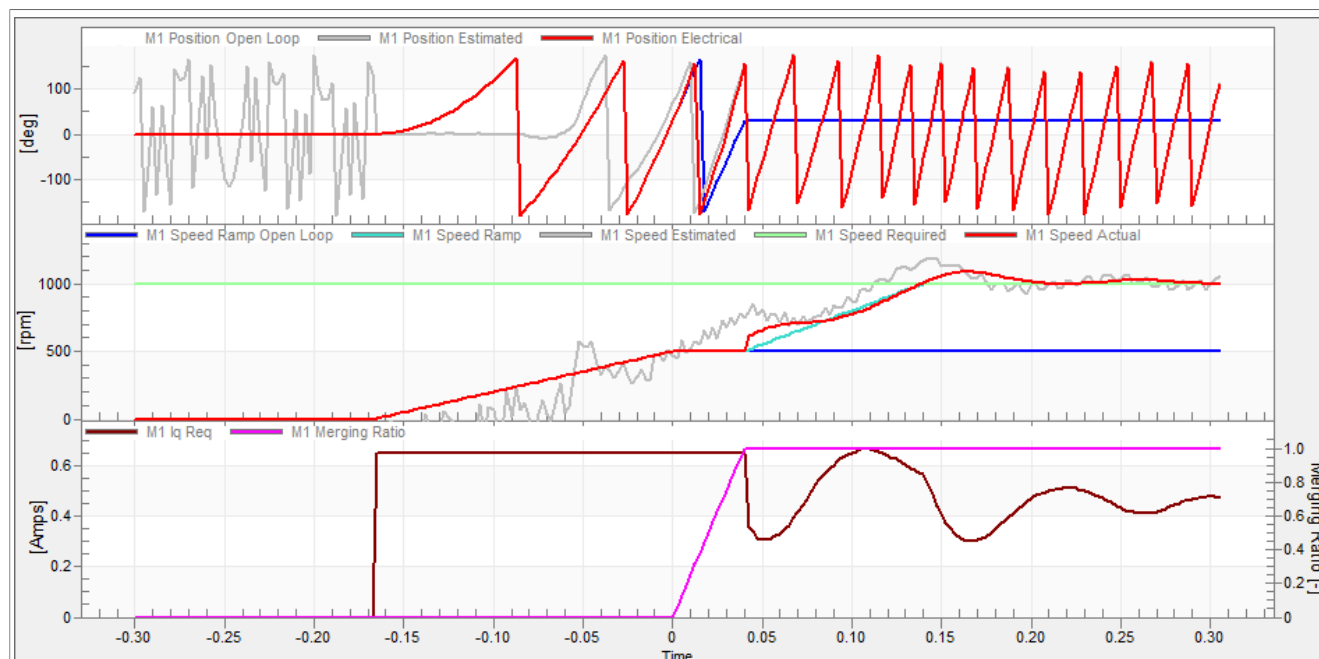

Figure 35. Motor startup
1. The startup process can be tuned by a set of parameters located in the "Sensorless" tab. Two of them (ramp increment and current) are accessible in both tuning modes. The startup tuning can be processed in all control modes besides the scalar control. Setting the optimal values results in a proper motor startup. An example startup state of low-dynamic drives (fans, pumps) is shown in Figure 35.